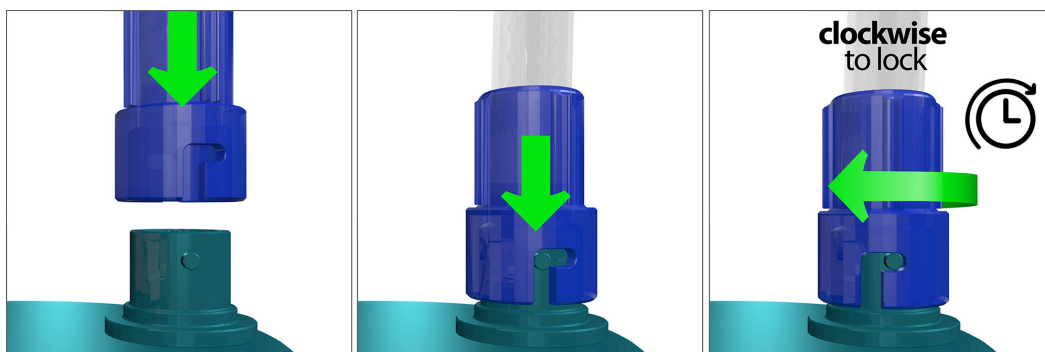

Figure 8
8. Gently line up the blue Twist N' Connect™ end of the tubing to the blue Twist N' Connect™ port on the canister, push down and twist clockwise to lock into place (**Figure 8**).
1. Gently line up the blue Twist N' Connect™ end of the tubing to the blue Twist N' Connect™ port on the canister, push down and twist clockwise to lock into place (**Figure 8**).